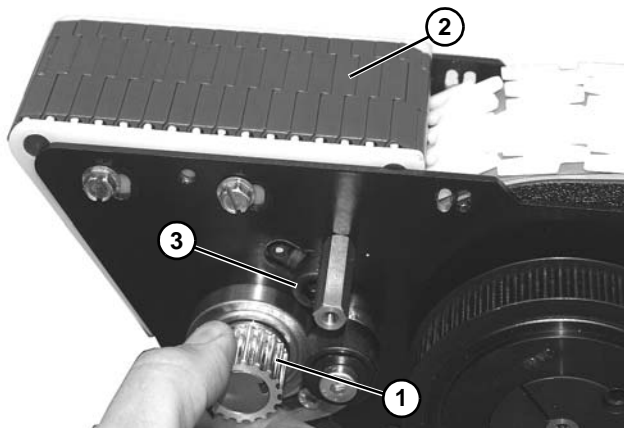

Figure 145
- Rotate drive shaft (**Figure 145, item 1**) to verify tightness of belt (**Figure 145, item 2**). Belt should turn freely. Loosen idler socket head screw (**Figure 145, item 3**) and adjust, if necessary.